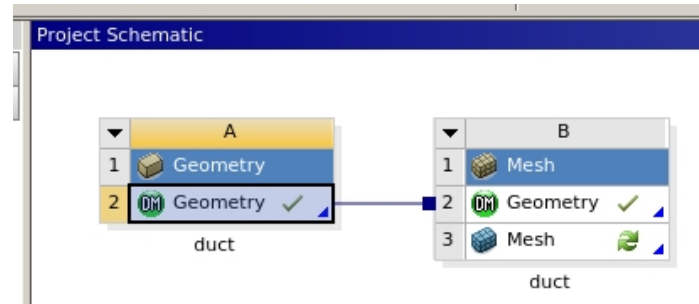

Figure 14: How the Workbench window should appear at the end of Step 2 of Meshing
2. Click and hold cell A2. Drag mouse over cell B2. Release the mouse button. The screen should look like Figure 14.